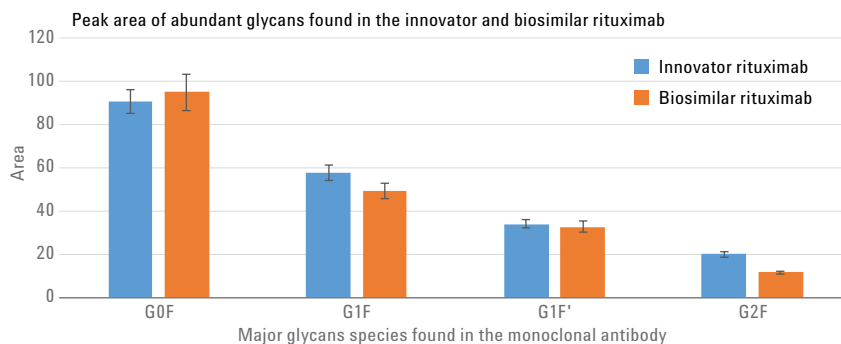

Figure 4. Peak area of major glycan species from 96 replicates for each innovator and biosimilar sample.
Each sample was HPLC analyzed in replicates of four. Figure 4 presents the peak area of four major glycans species from 96 replicates, demonstrating the excellent column-to-column reproducibility of the AssayMAP micro chromatography pipette tips. The Reproducibility Standard Deviation (RSD) calculated for peak area and peak height showed a coefficient of variation (CV) of less than 6 % for all glycan species. This demonstrates the very robust and reproducible sample preparation capability of the AssayMAP Bravo system.